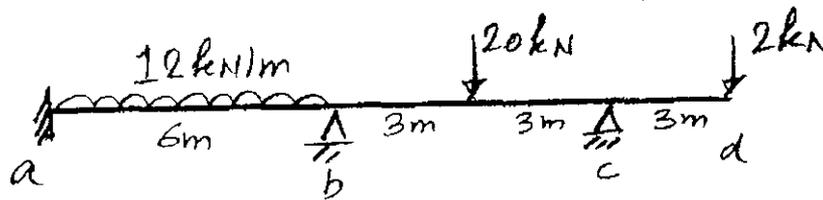

Fig. 3 (EI constant)
12. (a) Analyse the continuous beam shown in Fig. 3 by matrix stiffness method and hence draw BMD.